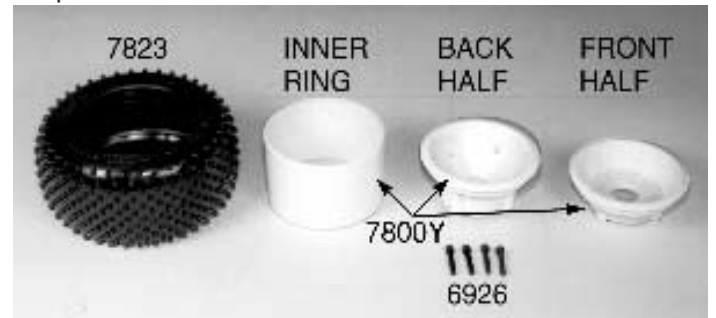

Fig. 204
□ **Fig. 204 & 205** For Bushing Kits. Remove the two #7800Y fluorescent yellow three piece rear wheels, two #7823 rear Proline XTM "Stubbie T" tires and eight #6926 4-40 x 5/8" socket head cap screws.